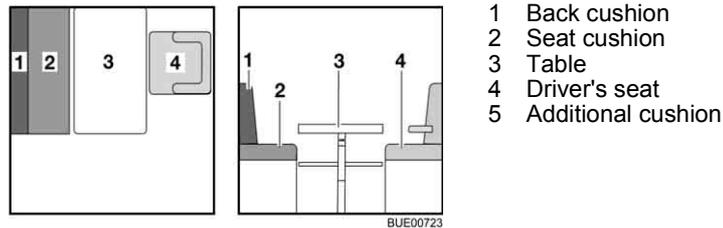

Fig. 91 Prior to conversion
- Turn the driver's seat (Fig. 91,4) and push it all the way forward.
- Convert the table (Fig. 91,3) to a bed foundation (see section 6.12.1).
- Lay the back cushion (Fig. 91,1) aside.